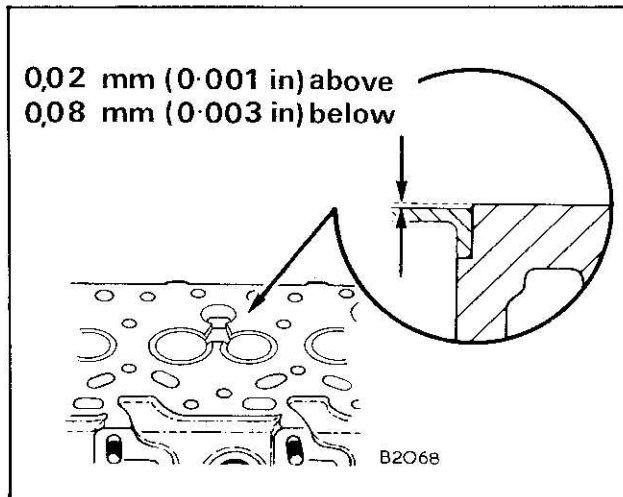

Fig. 7
3. Check the height of the insert in relation to the cylinder head face, Fig. 7.